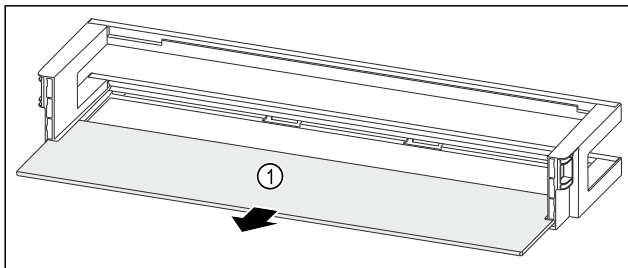

Fig. 48 Door rack with shelf
- ▶ Remove the shelf Fig. 48 (1).